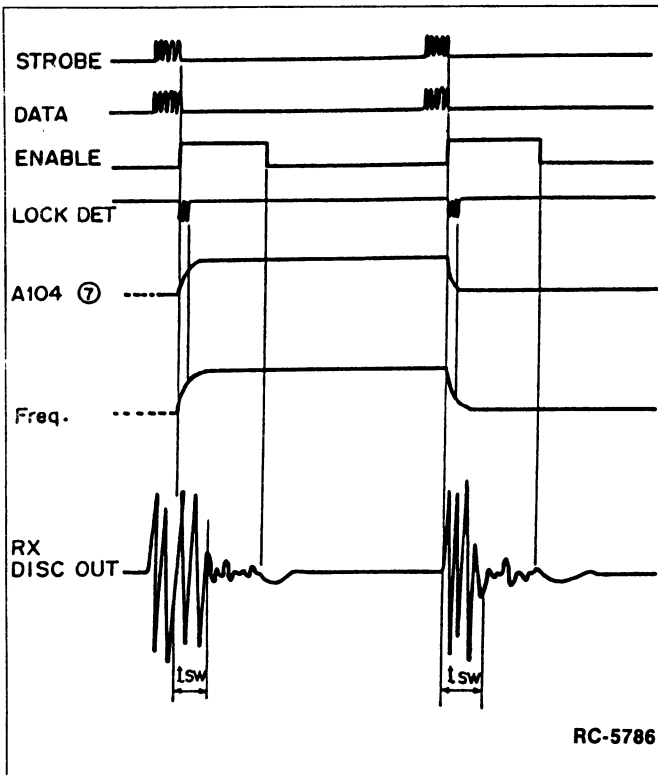

FIGURE 3 - LOGIC FORMAT
- b. The channel switching sequence and the action of the related functions is shown in Figure 3.